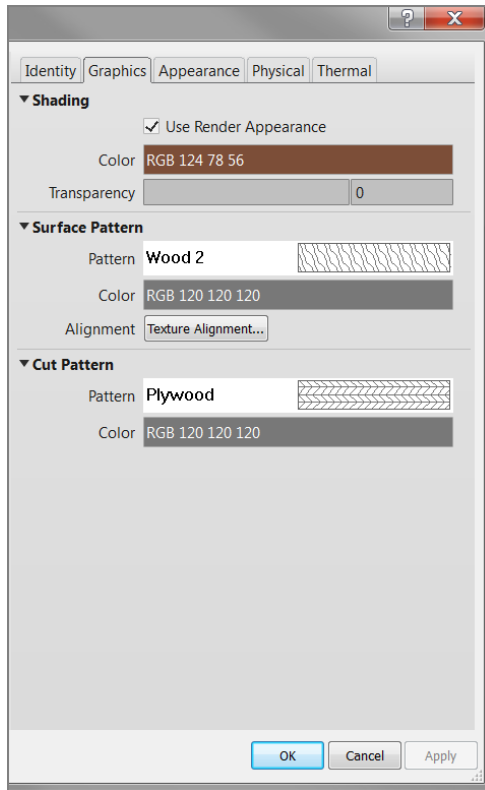

FIGURE 9.29: Making mahogany
10. Now that Mahogany is current, make sure you're on the Graphics tab, and make the values match Figure 9.29.